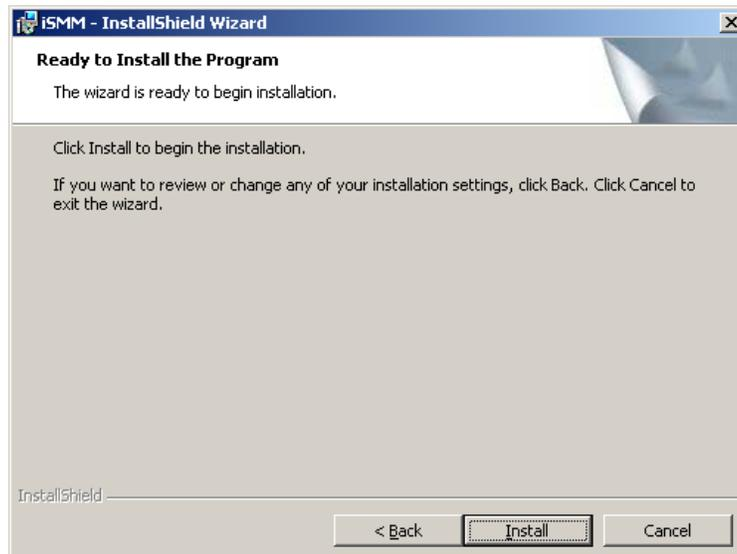

Figure 7-3: Ready to Install the Program Window
Step 7: The Ready to Install the Program in **Figure 7-3** appears.